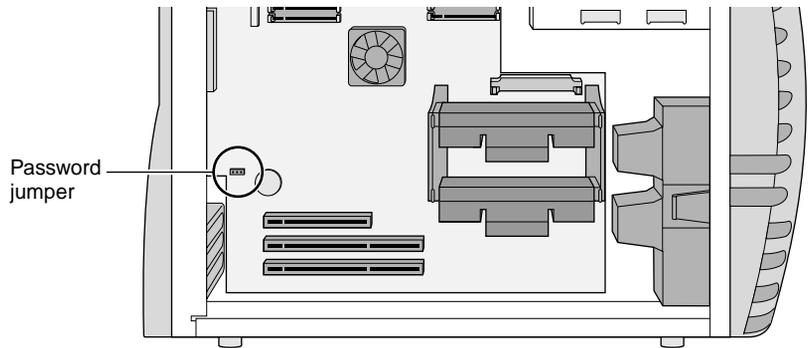

Figure 8-1 Password Jumper
4. Locate the password jumper just above the PCI card slots on the system board, as shown in Figure 8-1.